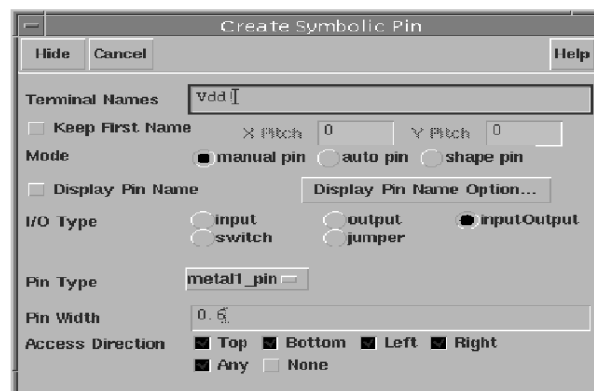

Fig.8
For example, to create a supply pin, select **Create→Pin** and type the Pin name as “**Vdd!**”. Note that the pin name for the supply voltage has to start with uppercase v (V), which is shown in Fig.8. Select the IO type as “**Inputoutput**” and the pin has to be the same type as the layer on which it goes. In other words if the pin is to be placed on metal1, it has to be of type metal1. Use meaningful names for inputs and outputs, select the IO type as Input or Output depending on the desired pin type.